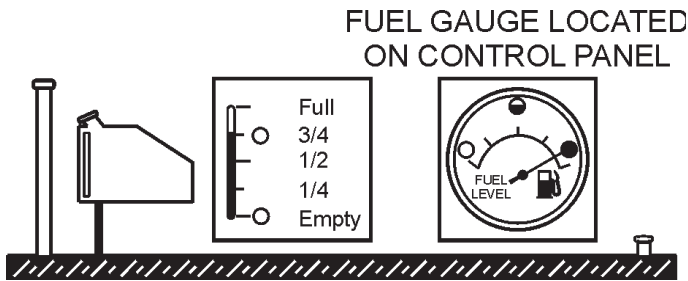

Figure 34. Full Trailer Tank
3. **NEVER overfill trailer fuel tank** – It is important to read the trailer fuel gauge when filling trailer fuel tank. **DO NOT** wait for fuel to rise in filler neck. See Figure 34.